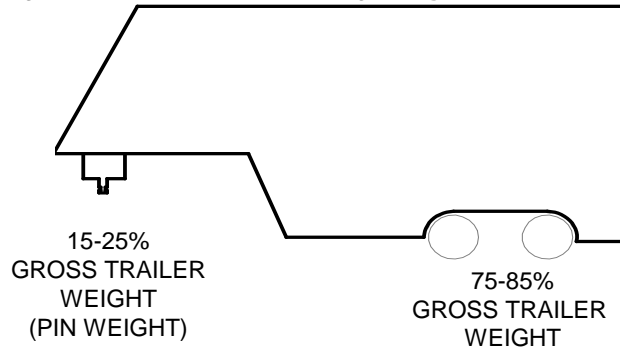

Figure 3
- King pin weight must not exceed fifth wheel rating (Figure 3). If in doubt have king pin weight measured by a qualified technician.
4. Approximately 15%-25% of trailer weight should be on hitch (Pin Weight)(**Figure 3**).